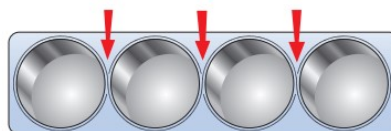

Figure 3: O-Ring Receiver Groove
4. Recommended o-ring protrusion is not more than 25% of gasket thickness (SEE FIGURE 1). Example: Gasket thickness .043", o-ring protrusion height is .008" to .010". This standard works with all thicknesses that are .050" and less. Gaskets that are thicker than .050" do not require o-ring height more than .012". NOTE: For extreme boost or heavy nitrous an O-ring-Receiver-Groove arrangement is recommended (SEE FIGURE 3). When using a receiver-groove the wire may be higher than 25% of gasket thickness; wire height & width determines receiver groove depth & width by maintaining the relationships in the Figure 3 illustration.